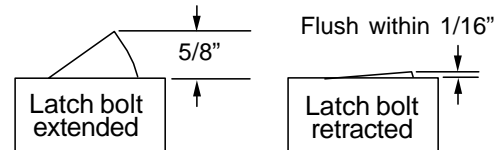

Figure 5
2. Depress pushbar and make sure latch bolts retract and extends fully (see Figure 5).
4. Check latch bolt(s) for full retraction (must clear strike (see Figure 5).
5. Release solenoid and check latch bolt extension (see Figure 5).